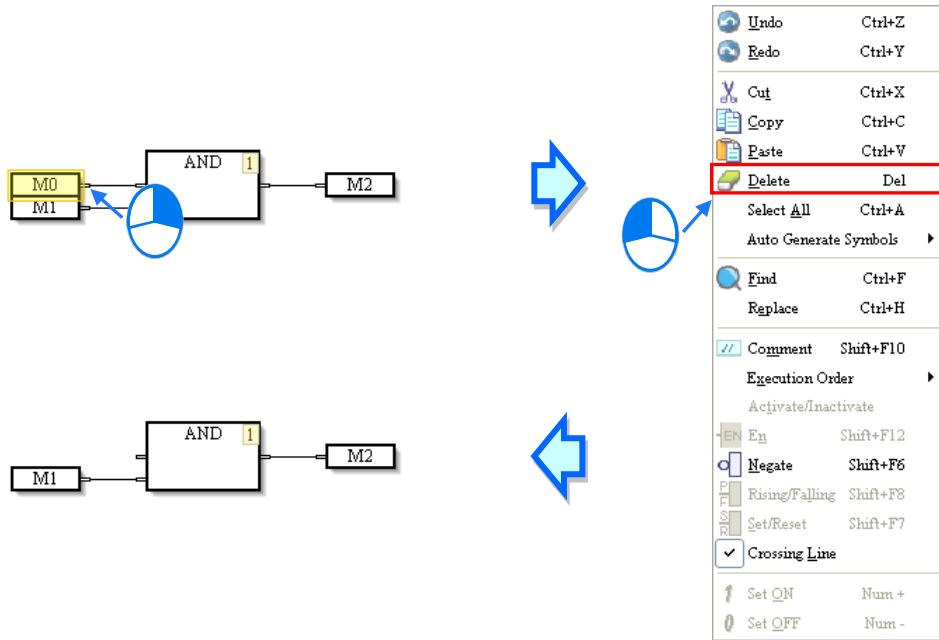

Figure 12-34 Deleting an object
- (2) The users have to click an object, right-click the object, and click **Delete** on the context menu which appears, as shown in figure 12-34.